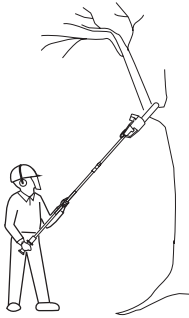

Fig. 33
1. Make sure that the guide bar cover (18) is removed, and the battery pack (32) is assembled before operation.
3. Always hold the product firmly with both hands on soft grip (7a) and rear handle (1). Never operate this product using only one hand (Fig. 33).